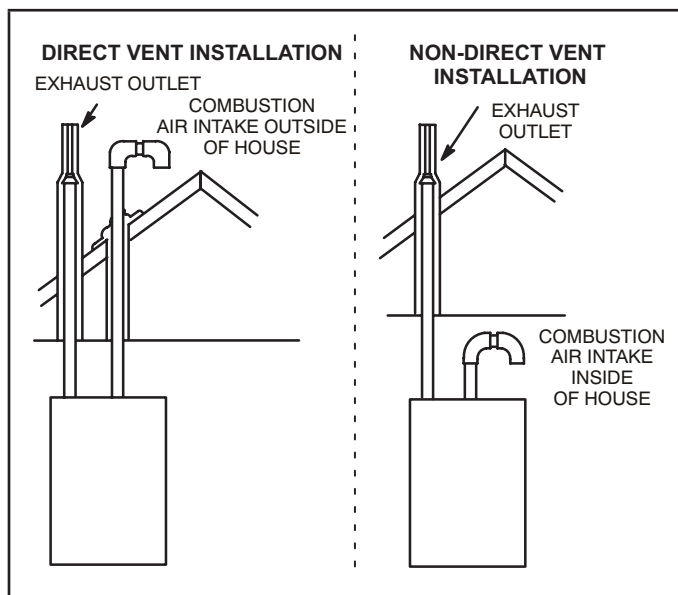

FIGURE 1
**NOTE** - In Direct Vent installations, combustion air is taken from outdoors and flue gases are discharged outdoors. In Non-Direct Vent installations, combustion air is taken from indoors or ventilated attic or crawlspace and flue gases are discharged outdoors. See figures 1 and 2 for applications involving roof termination.